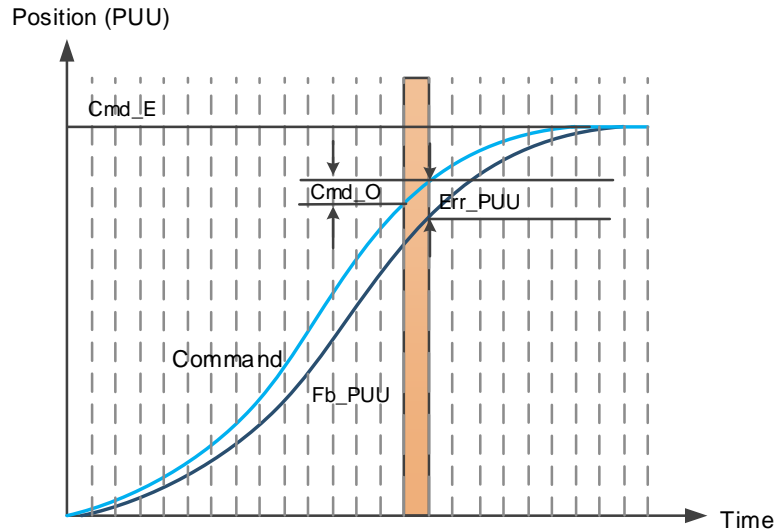

Figure 7.1.2.2 Monitoring variable status when a command is executed in PR mode
You can use digital input (DI) to call PR paths and digital output (DO) to monitor PR paths (refer to Tables 8.1 and 8.2 for the DI/O function descriptions). When you trigger the motion command with DI.CTRG (0x08), the servo drive operates based on the command from the internal registers. Once the execution is complete, DO.Cmd_OK (0x15) is set to on. When the motor reaches its target position, DO.TPOS (0x05) is set to on. Then, after the PR Position command completes and motor reaches the target position, both DO signals are on and the servo outputs the DO.MC_OK (0x17) signal to signify that it has completed this PR path. The operation is as shown in Figure 7.1.2.3.